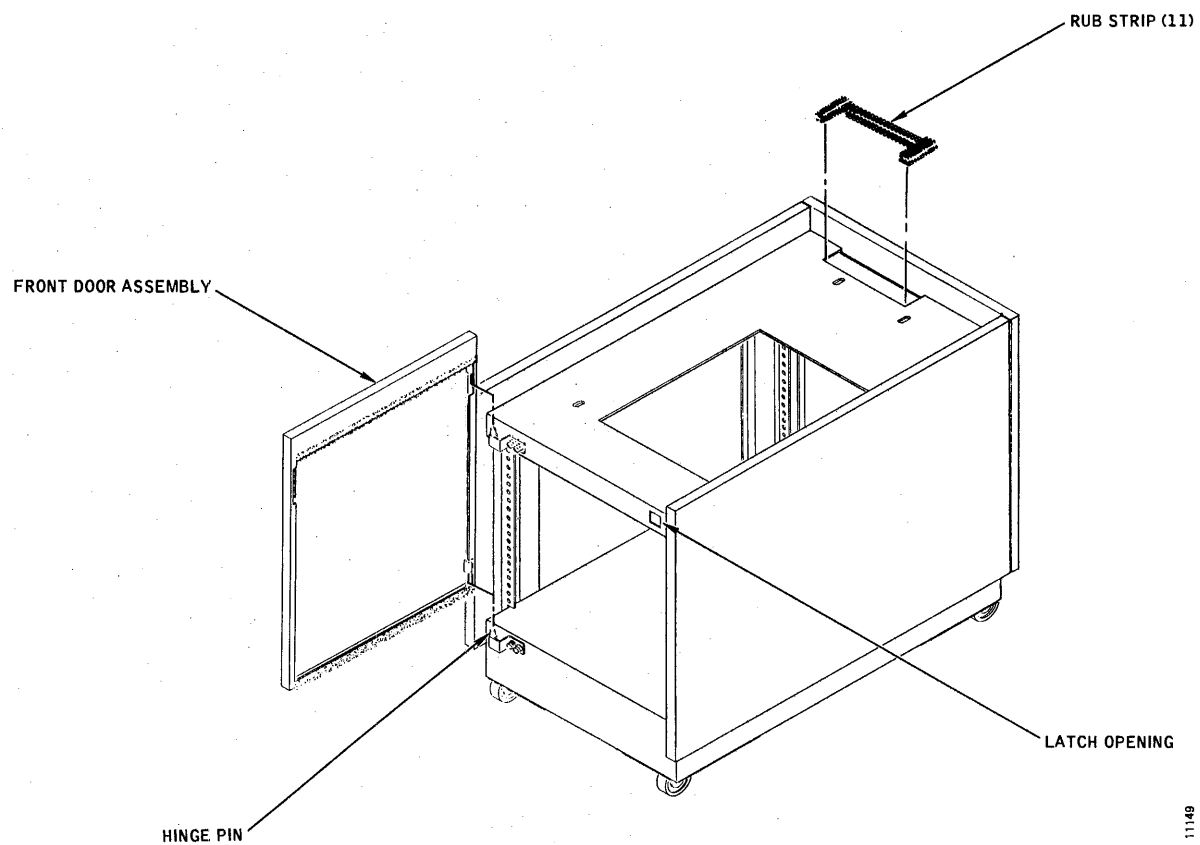

Figure A-9. Stand Assembly, Steps 17 and 18
17. Hang the front door assembly onto the main assembly by engaging its formed hinge slots over the hinge pins on the two, door hinge brackets. See Figure A-9. Swing the door closed, and check to see that the latch engages properly and that the door hangs square and flush with the two side panels. If not, adjust the two, door hinge brackets as necessary.
18. Install plastic Rub Strip (11) around the exposed edges of the rear cutout in the frame top member, as shown in Figure A-9. Stand assembly is now complete.